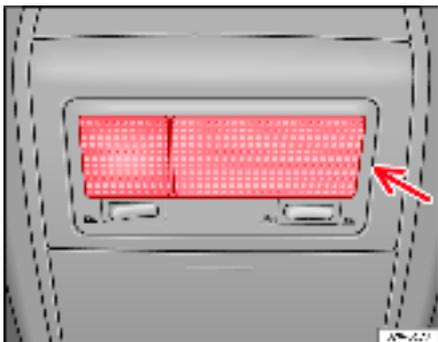

Fig. 169 Reading lights
- Turn the lampholder of the back of the lamp in the direction of the arrow ⇒ fig. 169 and separate.